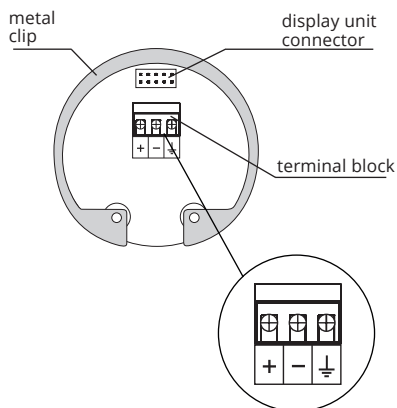

Fig. 14: Inside view of screw terminals of the level meter with current output ARLM-70 \_ \_ \_ I
5. Connect the cable to the screw terminals according to the diagram in Fig. 14. Firmly tighten the terminals and the cable outlet.